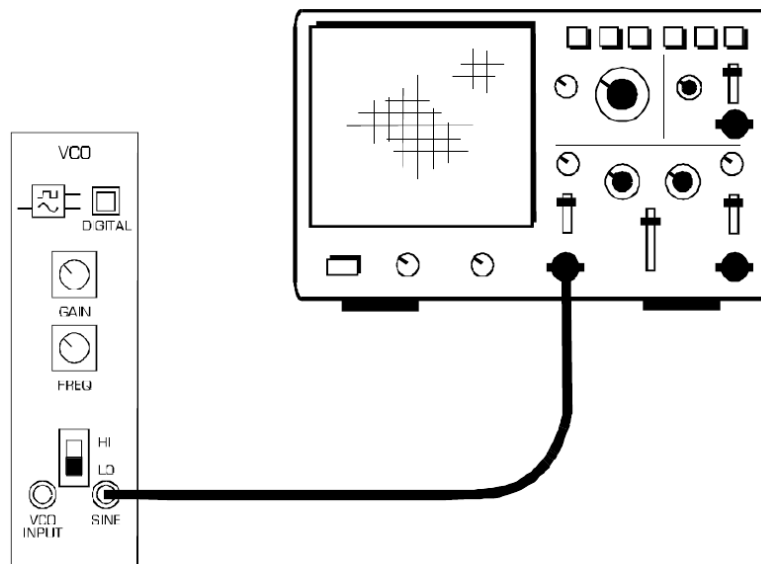

Figure 20:
6. Connect the setup as shown in Figure 20.